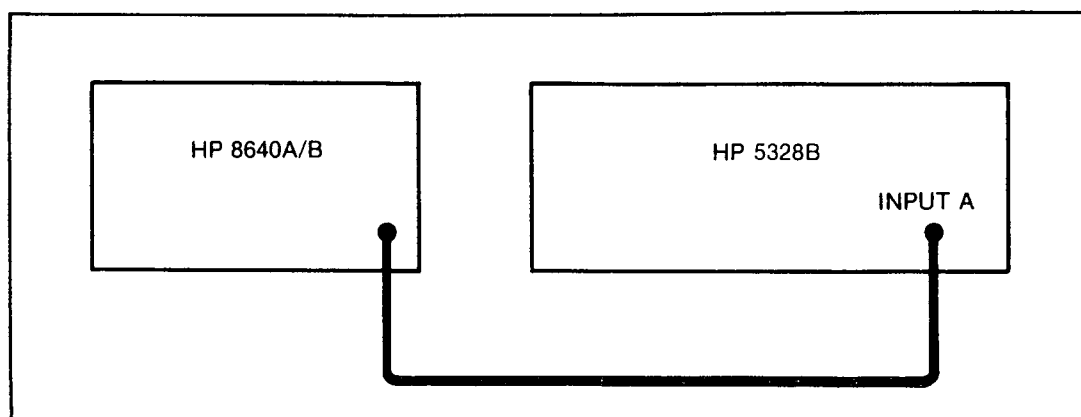

Figure 4-15. START/STOP — Test Setup
- a. Set up equipment for this test as shown in Figure 4-15.